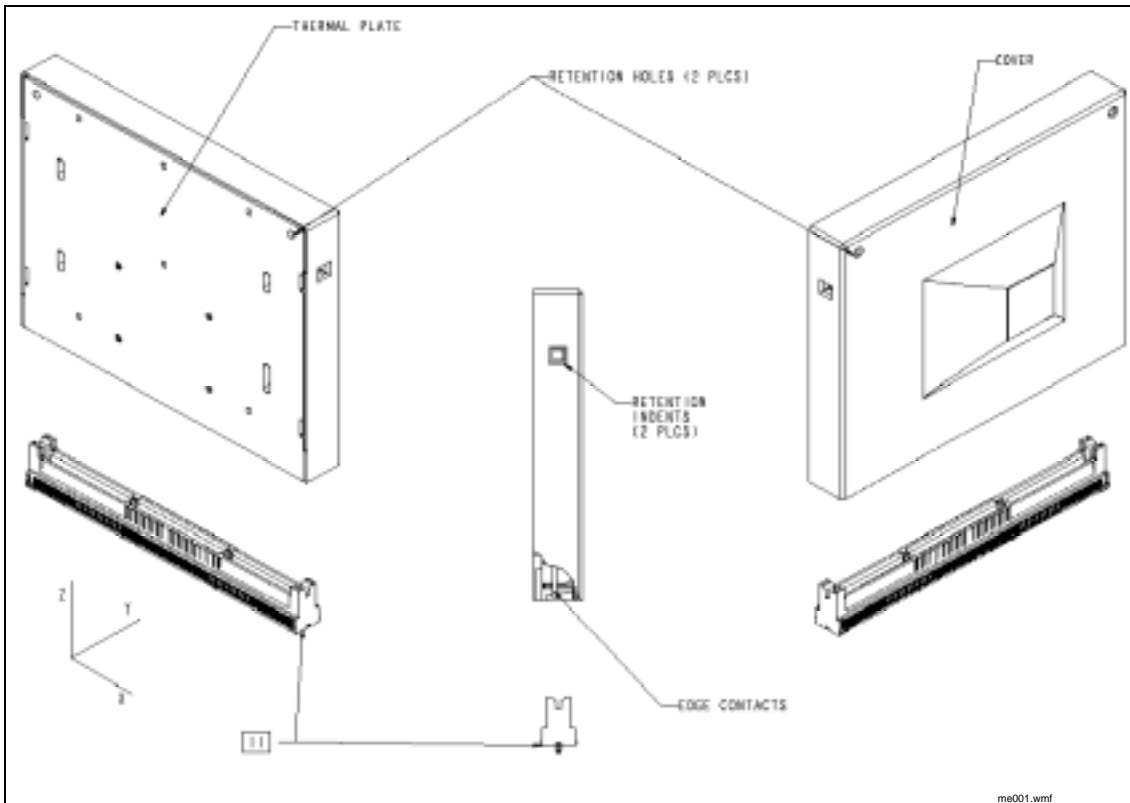

Figure 22. Isometric View of S.E.C. Cartridge
Figure 22 shows the thermal plate side view and the cover side view of the processor. Figure 23 shows the S.E.C. cartridge cooling solution attachment feature details on the thermal plate and depict package form factor dimensions and retention enabling features of the S.E.C. cartridge. The processor edge connector defined in this document is referred to as "SC330.1". This connector definition is mechanically the same as the existing SC 300 (formerly Slot 2). See the SC330 connector specifications for further details on the edge connector.
5. Retention devices for this cartridge must accommodate this cartridge "Float" relative to connector, without preload to the edge contacts in "X" and "Y" axes. (See figure 22 for axis orientation)